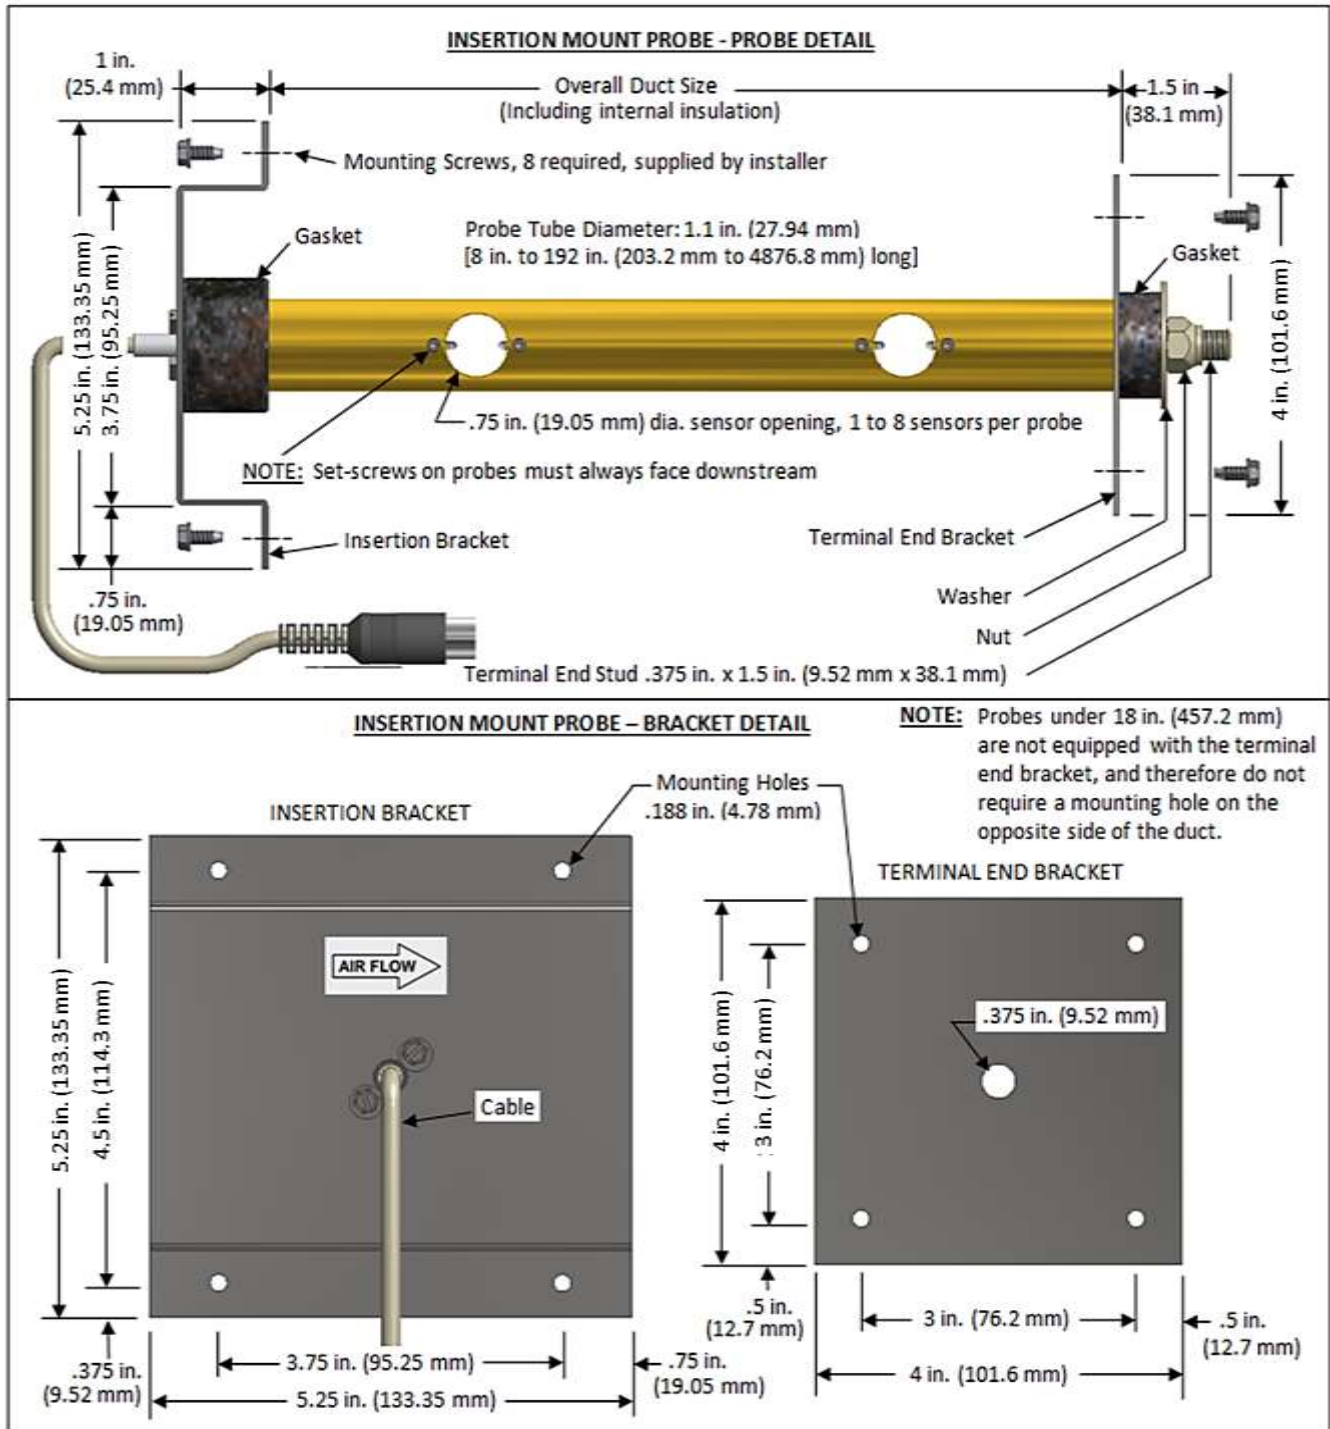

Figure 2. Probe Mechanical Detail
- Ensure that adequate installation / service clearance exists at the installation site to permit installation of the probe into the duct / plenum, and that the cable length for the probe(s) is sufficient to reach the planned transmitter installation. Refer to the mechanical details of Figure 2.
Figure 2 provides probe installation details. Probes 18 in. (457.2 mm) and longer include a terminal stud (and for rectangular ducts, a terminal bracket plate) for additional support at the far end of the probe. On these longer probes, a terminal stud mounting hole is required on the other side of the duct (opposite the insertion side). Shorter probes (under 18 in. / 457.2 mm) do not require a terminal bracket or end stud hole, and are fabricated 0.25 in. (6.3 mm) less than the overall duct size.